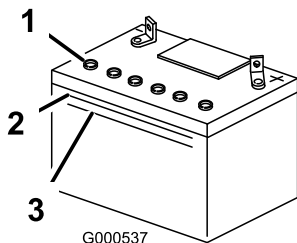

Figure 40
- Look at the side of the battery. The electrolyte must be up to the **upper** line (Figure 40). Do not allow the electrolyte to fall below the Lower line (Figure 40).
- Remove the vent caps from the battery (Figure 40).
- Slowly pour distilled water into each battery cell until the electrolyte level is up to the Upper line (Figure 40) on the battery case.
- Wait five to ten minutes after filling the battery cells. Add distilled water, if necessary, until the electrolyte level is up to the Upper line (Figure 40) on the battery case.